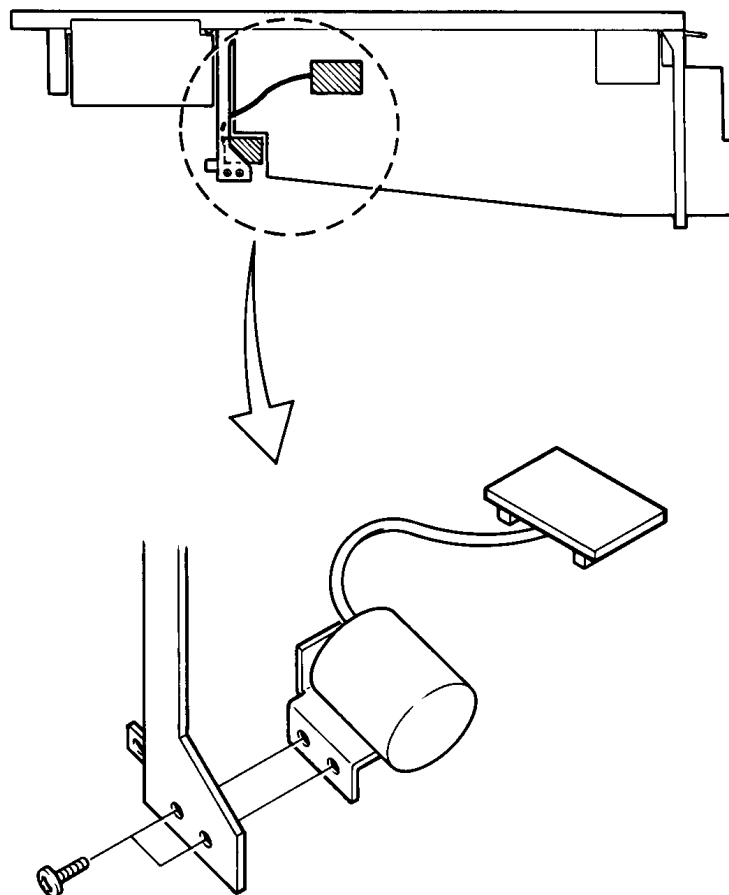

FIGURE 6-6. OPTIONAL INPUT TRANSFORMER INSTALLATION. (IT1800)
The PM1800 standard input module is equipped with a balanced, differential input preamplifier for the XLR connector. That preamp, along with some circuitry for the resistive attenuation pads, is located on a small printed circuit board that “piggy back” mounts to the module’s main circuit board. Refer to Figure 6-6.
6. Install the transformer by securing its bracket to the lower left edge of the module frame with the screw provided. Dress the cable that joins the transformer and its circuit board neatly. You may wish to tie it to the board so that after the module is reinstalled, the cable does not become pinched between modules or between the module and mainframe. Refer to Figure 6-6.